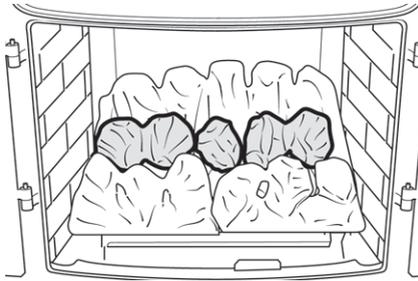

Figure 9
5. The double top coals are marked “L” and “R”. Place the coal marked “L” behind the front left coal. Place the coal marked “R” behind the front right coal. Place the single coal between the two double coals. See figure 9.